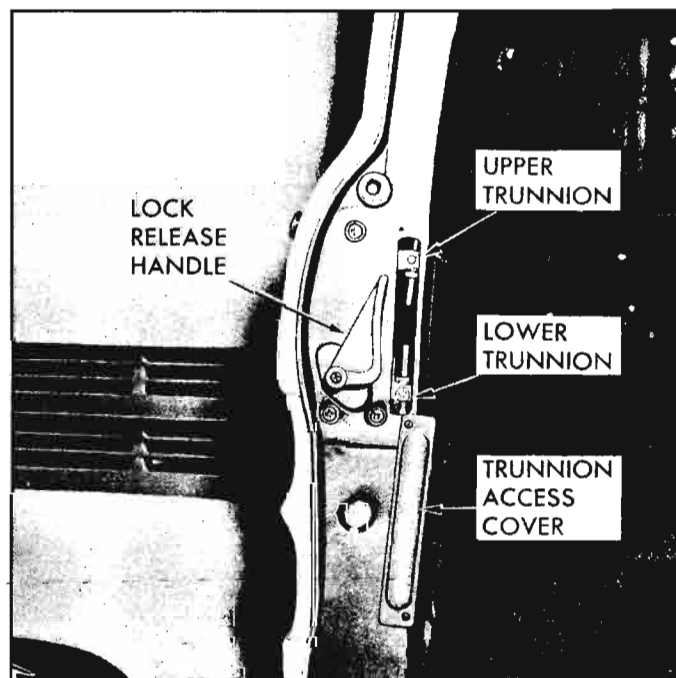

Fig. 10-74a—Side Rear Door Lock
3. Remove retainer spring at each trunnion (fig. 10-74a) and unhook trunnions from lock lever.
NOTE: Locking latch upper and lower rod assemblies are adjustable at the trunnions (fig. 10-74a).